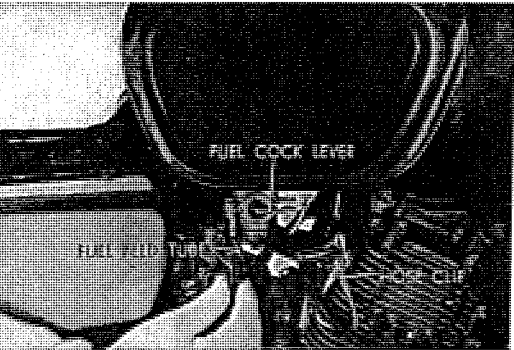

Fig. 4.29 Position cock lever at STOP and remove tubes, A and B from the carburetor
3. Place the lever of the fuel cock STOP and remove fuel lines A and B from the carburetor. (Refer to Fig. 4.29)